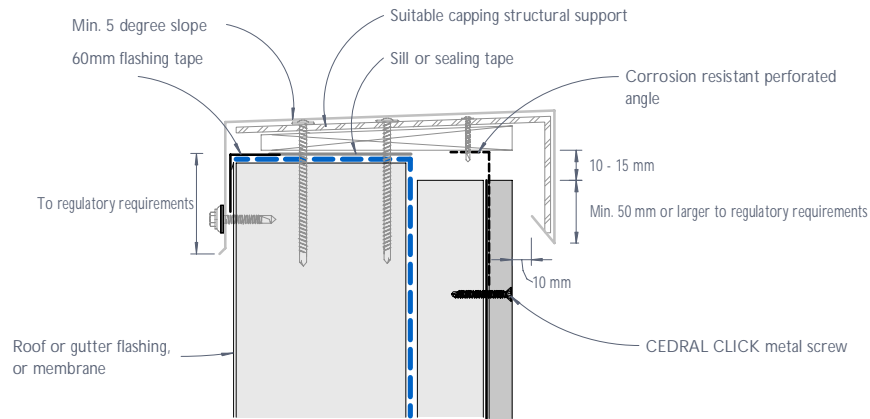

Figure 45: CEDRAL CLICK typical capping detail
- 3) Capping shall be designed and engineered accordingly to provide adequate allowance for ventilation as shown in Figures 45 & 46.